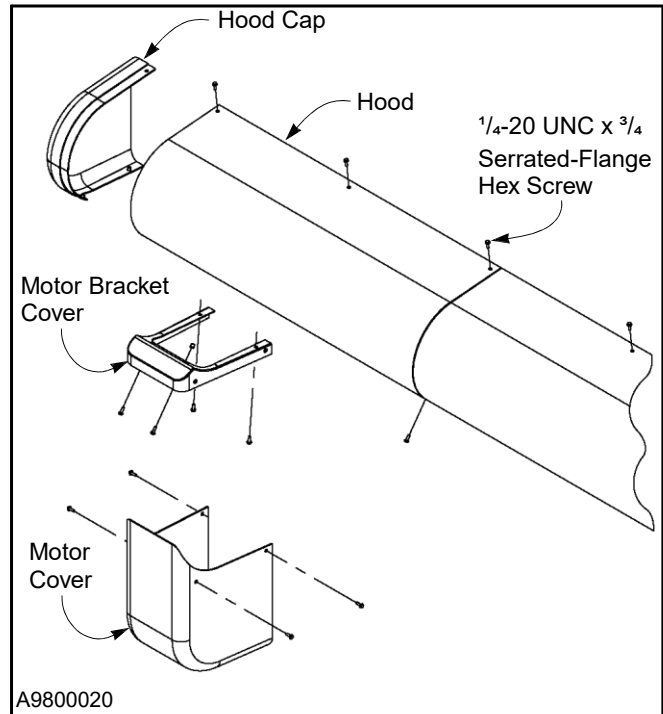

Figure 31
2. Assemble the motor cover, motor bracket, hood cap, and hood using  $\frac{1}{4}$ -20 UNC x  $\frac{3}{4}$  serrated-flange hex screws. (See Figure 31)